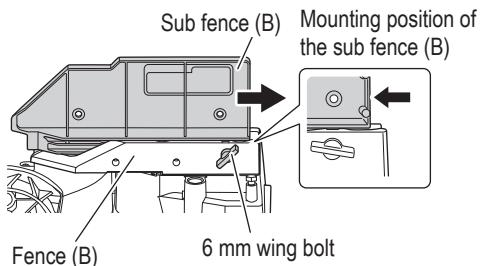

Fig. 20
When left bevel angle cutting, loosen the 6 mm wing bolt, then slide the sub fence (B) outward, as shown in Fig. 20.
In the case of direct angle cutting and right bevel angle cutting, slide inward to the position where the sub fence (B) hits, and secure it with 6 mm wing bolt. (as shown in Fig. 20)
When changing the bevel angle to the left 45°, loosen the 6 mm wing bolt shown in Fig. 20, then slide the sub fence (B) outward and incline the motor head to the left.